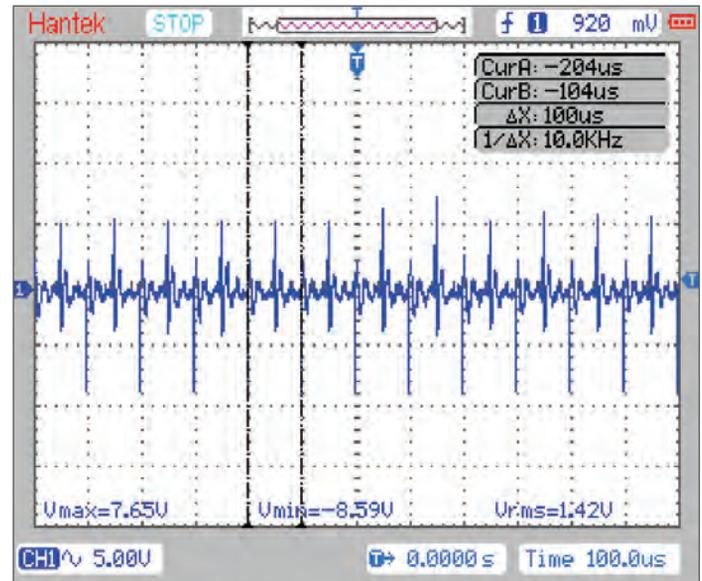

Figure 8. High-frequency current through shaft of the motor
*Figure 8* shows typical current through the ground wire as measured with Tektronix’ current probe CT1[15]. This probe has 5mV/mA sensitivity. All measurements of current in this paper were done using this method. As seen, peak current is